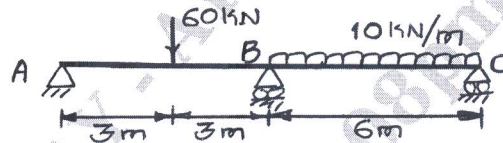

Fig.Q2
- 2 Analyze the continuous beam shown in Fig.Q2 by flexibility matrix method using force transformation matrix. Take moment at B as redundant. Draw BM diagram.